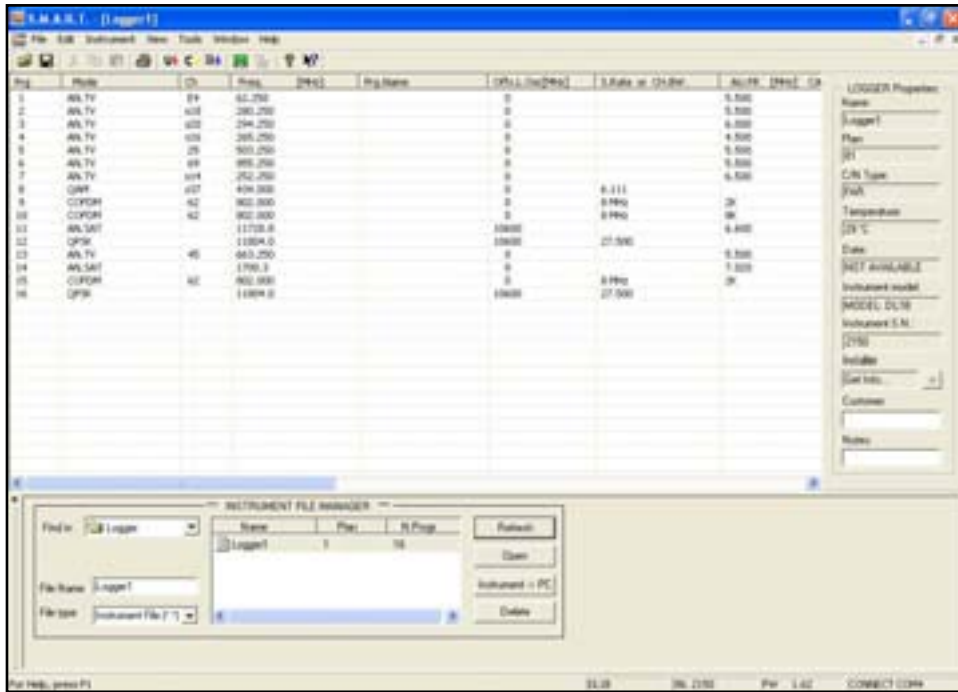

Figure 4.2
- e) All logger files will be listed (Fig. 4.2).
- f) Click twice on a file logger to visualise it (fig. 4.2)